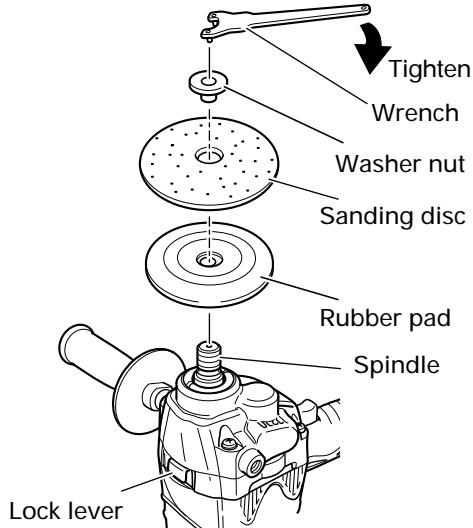

Fig. 4
Make sure that the lock lever is disengaged by pushing the lock lever two or three times before turning on the disc sander (Fig. 4).
1. Assembling (Fig. 4)